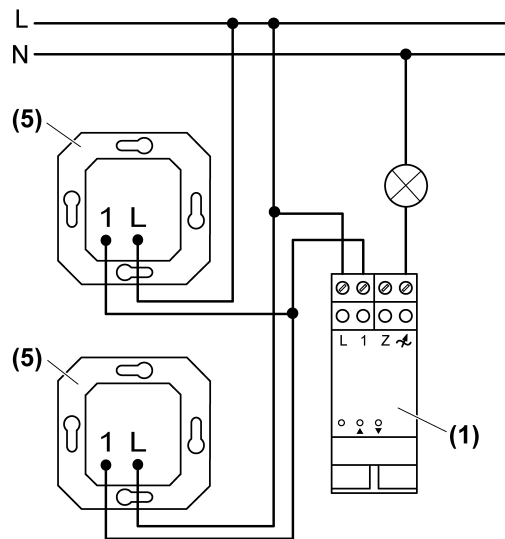

Figure 2: Connection diagram
- Mount dimmer (1) on DIN rail.
- Connect the dimmer (1) and local extensions (5) according to the connection diagram (Figure 2).